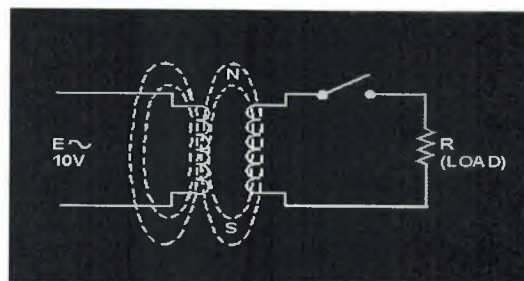

Figure 1.6.8. - Transformer under no-load conditions.
You have learned that a transformer is capable of supplying voltages which are usually higher or lower than the source voltage. This is accomplished through mutual induction, which takes place when the changing magnetic field produced by the primary voltage cuts the secondary winding. A no-load condition is said to exist when a voltage is applied to the primary, but no load is connected to the secondary, as illustrated by figure 1.6.8. Because of the open switch, there is no current flowing in the secondary winding. With the switch open and an ac voltage applied to the primary, there is, however, a very small amount of current called EXCITING CURRENT flowing in the primary. Essentially, what the exciting current does is "excite" the coil of the primary to create a magnetic field. The amount of exciting current is determined by three factors: (1) the amount of voltage applied (E_a), (2) the resistance (R) of the primary coil's wire and core losses, and (3) the X_L which is dependent on the frequency of the exciting current. These last two factors are controlled by transformer design.